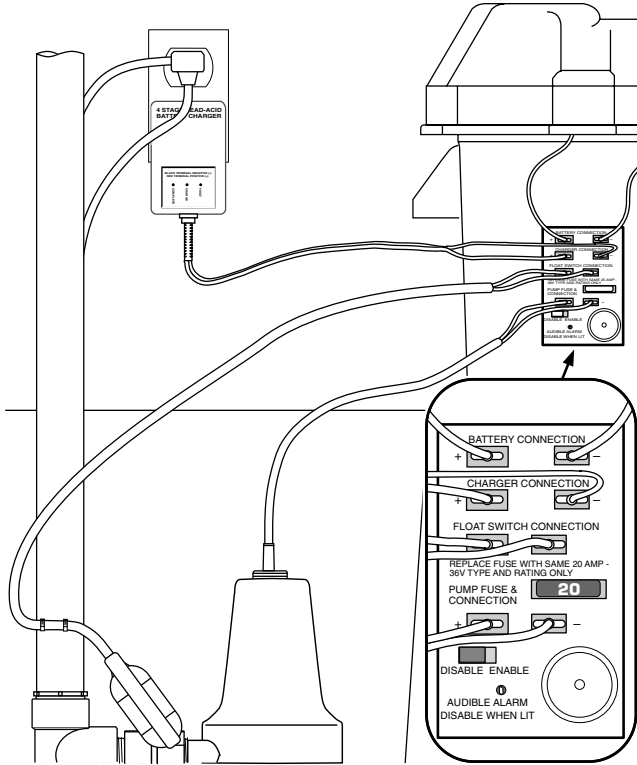

Figure 9 – Wiring Connections FG100-A1
1. Apply two pieces of two-sided tape (provided, Key No. 9) to the back of the junction box. Press the junction box onto the battery box as illustrated in Figure 9 and on Page 15 (Exploded View).
2. Connect the charger as shown in Table I and Figure 9.